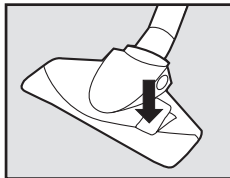

Fig.3
2. Carpets or rugs: the brushes on the combination floor tool must be raised, by pressing the bottom of the rocker switch (Fig.3).